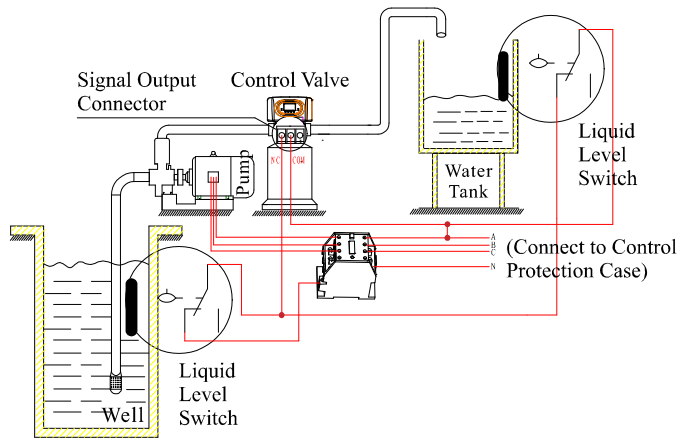

Figure 3-6 Wiring of Liquid Level Switch in Water Tank Controls Inlet Pump
3)Liquid Level Switch in Water Tank Controls Inlet pump (Three-phase motor, Figure 3-6)